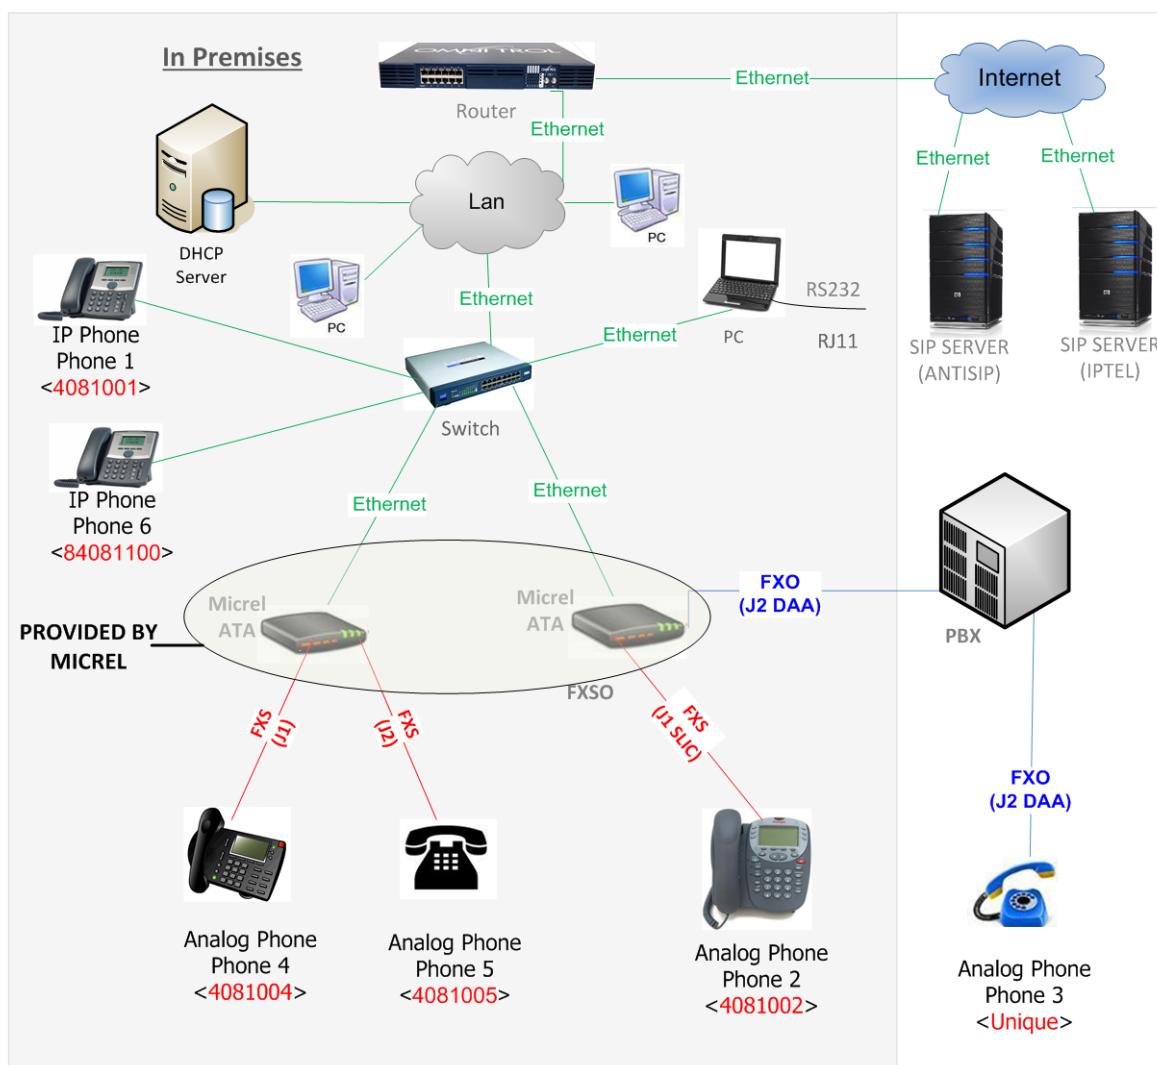

Figure 1: Setup required for ATA evaluation
This section lists all **items that need to be setup prior to setting up the ATA Demo**. They are as follows (see Figure 1):
- 1) Connect all items as shown in Figure 1 below. Please contact your local IT department for configuration of the Router.